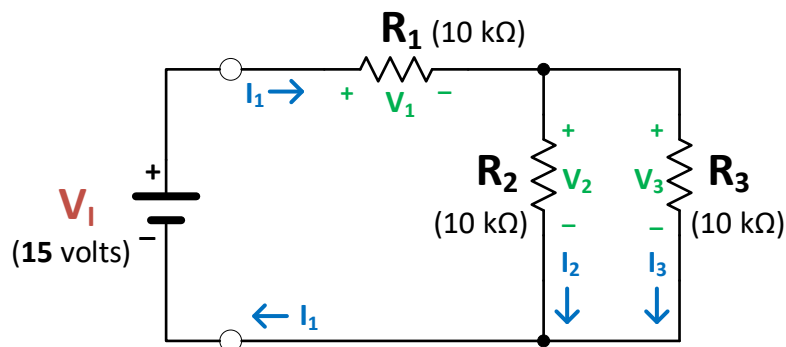
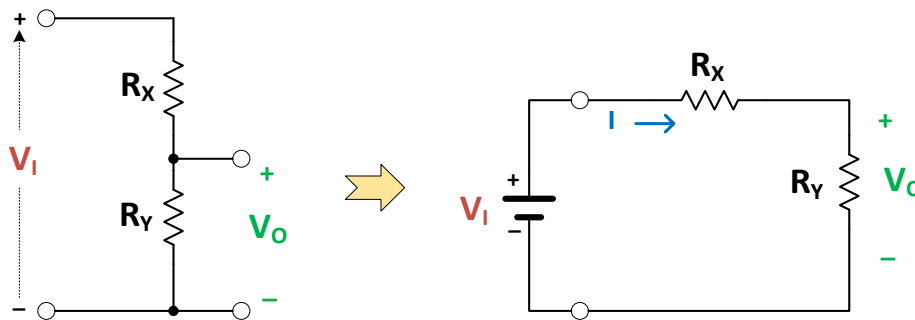

Figure 2.0: Simple D.C. circuit for voltage and current measurements
Figure 2.1: Simple voltage-divider circuit
- (b) The simple DC circuit in **Figure 2.0** is powered by a **15 volts** DC battery input-source (V_1) which will cause currents to flow through the resistors, R_1 , R_2 and R_3 as illustrated. When current flows through a resistor, it creates a voltage across the resistor as governed by the **Ohm's Law** expression, $V = I.R$. The **Kirchhoff's Current Law** (KCL) states that the sum of all currents entering (or leaving) a node is zero. Therefore, $I_1 + (-I_2) + (-I_3) = 0$, resulting in $I_1 = I_2 + I_3$.
- (c) The circuit in **Figure 2.1** is a simple voltage-divider configuration that uses two resistors in series to create an output voltage, V_o which is a fraction of the input voltage, V_i . The basic circuit laws dictate that the circuit current, I and the resultant voltage division output, V_o of this basic circuit configuration can be expressed as:
For the resistor values selected for circuits in **Figure 2.0** and **Figure 2.1**, and comparing your results in **Table 2.0** with those in **Table 2.1**, answer the following questions:
- Construct and simulate the circuit of **Figure 2.0**, with $V_1 = 15 \text{ V}$ and $R_1 = R_2 = R_3 = 10 \text{ k}\Omega$. Measure the voltages V_1 , V_2 and V_3 ; and currents I_1 , I_2 and I_3 . Record the results in below **Table 2.2**.
- Construct and simulate the circuit of **Figure 2.1**, with $V_1 = 15 \text{ V}$, $R_X = 10 \text{ k}\Omega$ and $R_Y = 5 \text{ k}\Omega$. Measure the voltage, V_O and current, I . Record the results in below **Table 2.3**.
Implementation of the Simple DC Circuit in Figure 2.0
1. Turn OFF the Power Supply (PS) and the DMM multimeter.
2. Follow proper breadboarding procedures to neatly construct the DC circuit in **Figure 2.0** on your breadboard using the three $10\text{ k}\Omega$ resistors that were previously marked and identified as R_1 , R_2 and R_3 . For convenience, connect a red wire from the **RED** binding terminal to one of a “red lined” horizontal node on the breadboard, and a green wire from the **GREEN** binding terminal to the “blue lined” common node. This way, the “+” side of the input DC voltage, V_I from the Power Supply can be securely connected to the **RED** terminal with a **banana** cable, and the “-” side of the input DC voltage from the Power Supply securely connected to the **GREEN** binding terminal using a second **banana** cable. *Banana cables are made available in the lab room.*
Below **Figure 5.0b** shows a possible breadboard setup of the DC circuit in **Figure 2.0** to serve as a reference guide.
Table 4.0: Measured values for the circuit in Figure 2.0
Implementation of the Voltage-Divider circuit in Figure 2.1
2. Modify your existing breadboard circuit in **Figure 2.0** to construct the voltage-divider circuit in **Figure 2.1**, as follows:
- Leave resistor, R_1 (10 k Ω) from the previous circuit in place to serve as the required value for resistor R_X (10 k Ω) of the voltage-divider circuit in **Figure 2.1**.
- Replace resistor, R_2 (10 k Ω) in the previous circuit with the 5.1 k Ω resistor to serve as the required resistor, R_Y of the voltage-divider circuit in **Figure 2.1**.
3. Turn ON the Power Supply (PS) and set its voltage value to 15 volts for your V_I input source.
Table 4.1: Measured values for the circuit in Figure 2.1